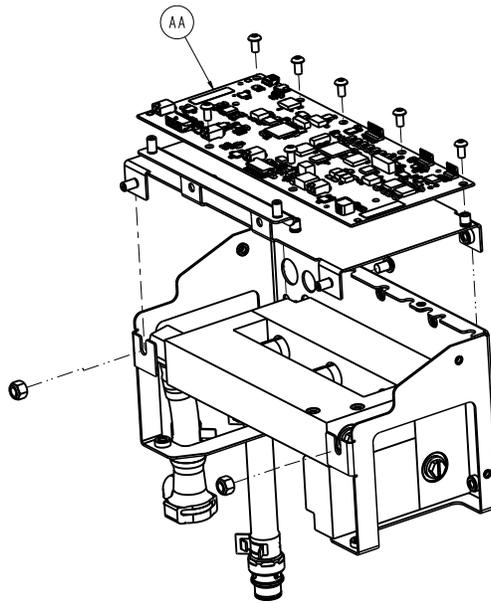

Figure 33 – Main control board
- Disconnect the cable connections from the MCB (AA). The ten cable connections are labeled E, F, G, H, J, M, N, L, AG, and AH (Figure 33).